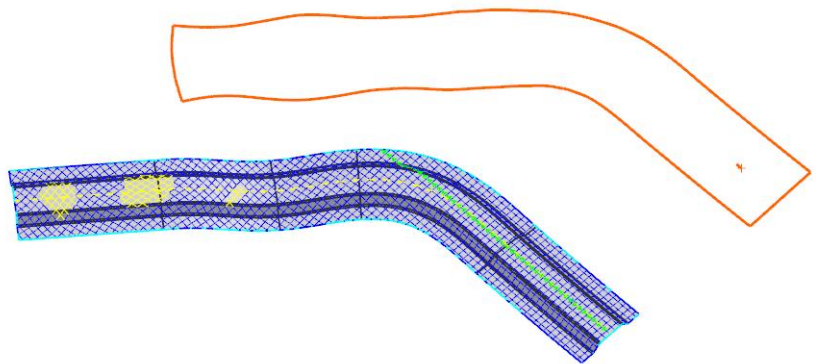

Figure 5–44
7. Switch to NX and review the flat pattern created. Flat pattern for P001 is shown in Figure 5–44.